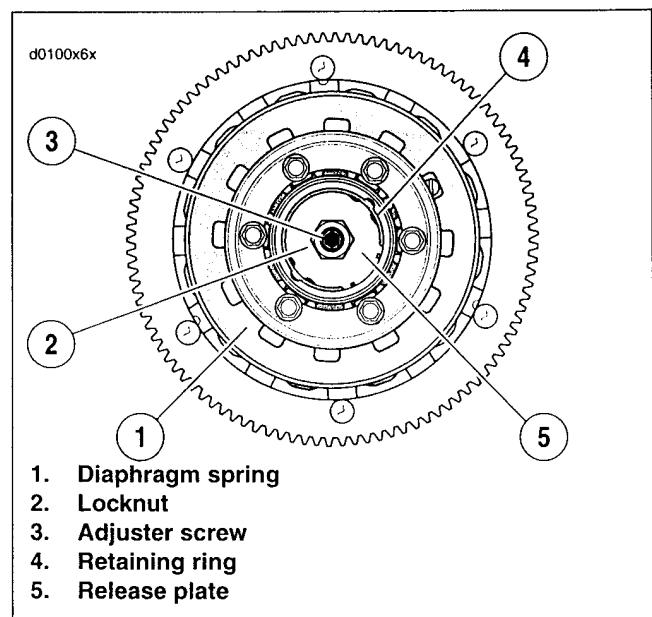

Figure 6-14. Clutch
- See Figure 6-14. Install release plate (5) with locknut (2) and adjuster screw (3) into clutch hub bore. The word "OUT" stamped on the release plate should face outward.